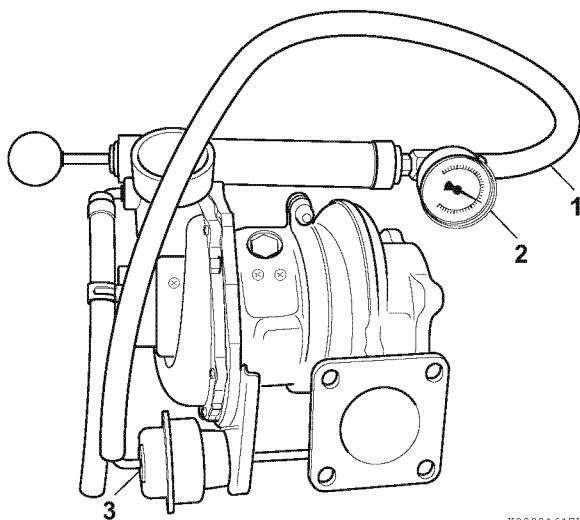

Figure 10-6
1. Connect a hand-operated air pump to the waste gate actuator pipe (1, **Figure 10-6**). The pump should be equipped with a 30 psi (0.21 MPa; 2.21 kgf/cm²) pressure gauge (2, **Figure 10-6**), and a pressure release valve to release any pressure pumped into the system. (Similar pumps are used to check for leaks in marine gear cases.)
2. Apply 17 psi (0.12 MPa; 1.2 kgf/cm²) to the waste gate actuator (3, **Figure 10-6**) circuit. Observe if the waste gate valve is open fully. If the waste valve does not open fully, replace the turbocharger or have it repaired by a qualified repair facility.